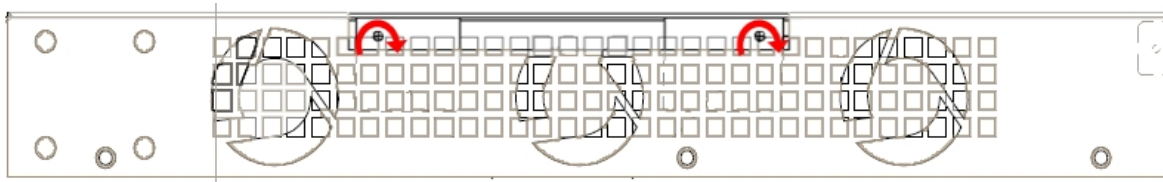

Fig. 10: Placing the flap screws on the upper panel
- (11) Place the upper panel flap and screw it down using the screws. See Figure 10.